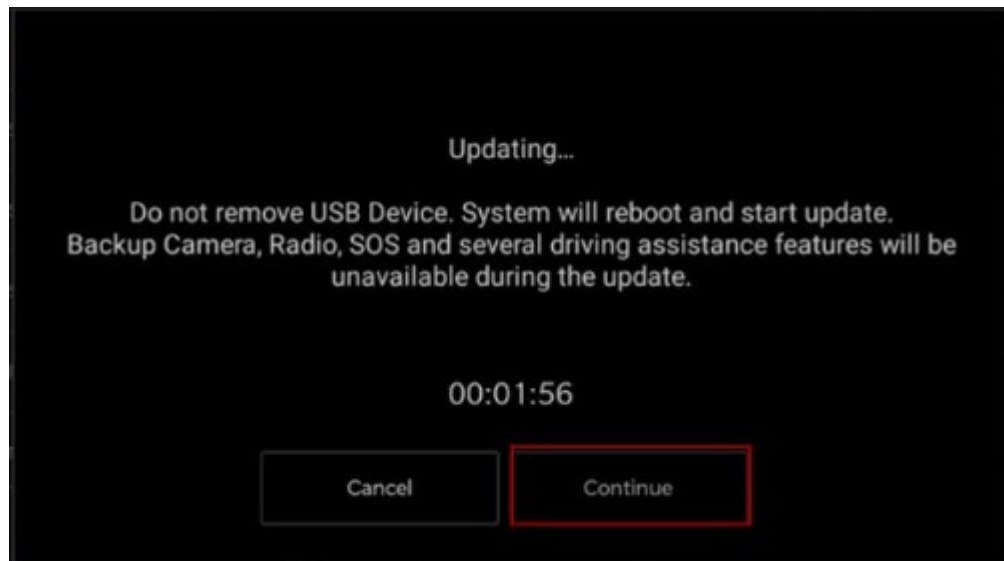

Fig. 3
13. Press the “Continue” on the display screen (Fig. 3) .